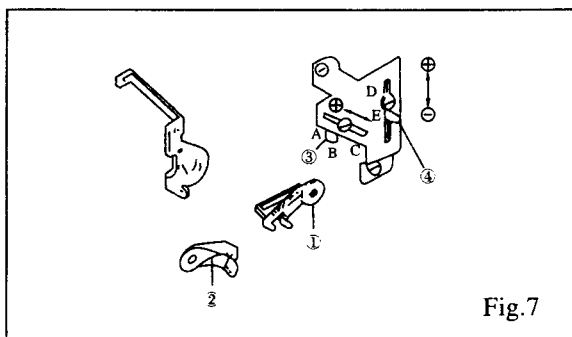

Fig.7
3. Looper thread Control Fig.7